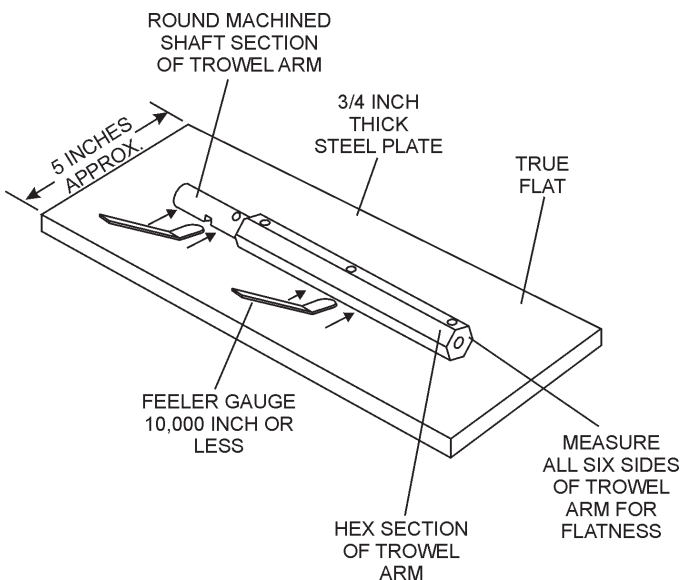

Figure 45. Trowel Arm Flatness Test
2. Check each of the six sides of the trowel arm (hex section only) using a ten thousandths of an inch (max.) feeler gauge (Figure 45) between the flat of the trowel arm and an **extremely flat** test surface.